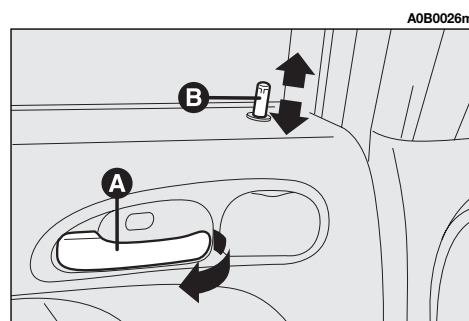

fig. 17
- To open the door pull handle (**A**-fig. 17).
By pressing the knob (**B-fig. 17**) on one of the rear doors only that particular door will be locked.